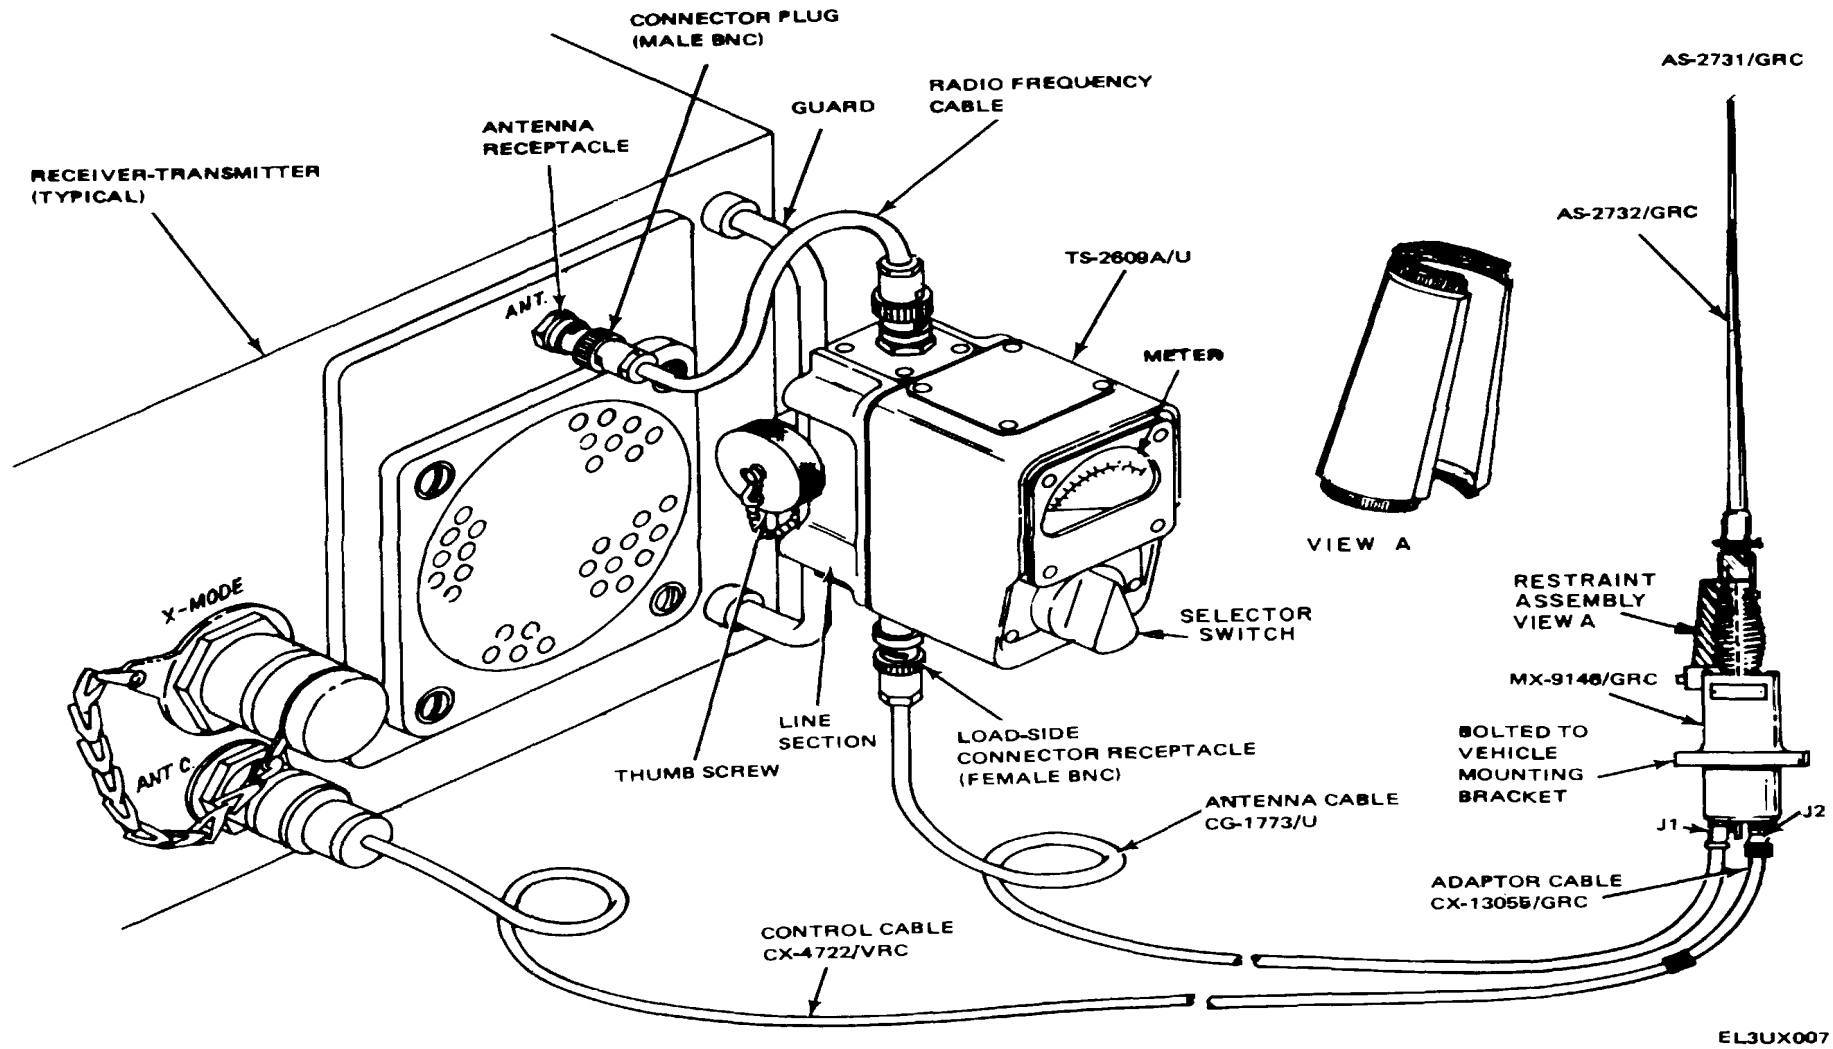

Figure 4-1. Typical receiver-transmitter test setup with ANURM-182.
- a. *Test Setup* (fig. 4-1).
(1) Connect the AN/URM-182 between the AS-2731/GRC and the receiver-transmitter unit. Antenna must be mounted upright in an open area away from buildings and trees which would offset forward and reflected power indications of the AN/URM-182.
(2) If the control cable is not used, set frequency selector switch S1 to the position that includes the operating frequency of the rt unit.